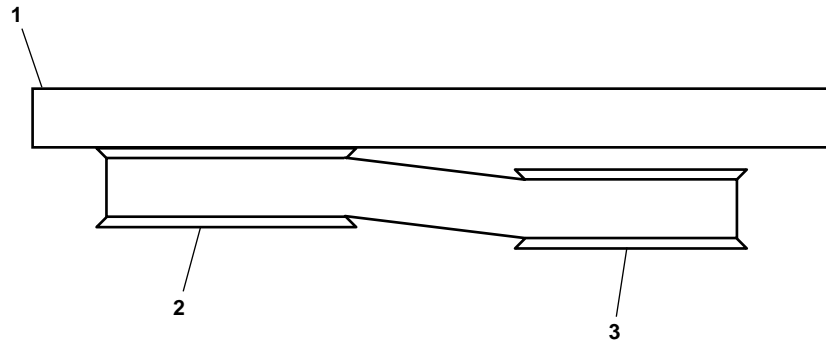
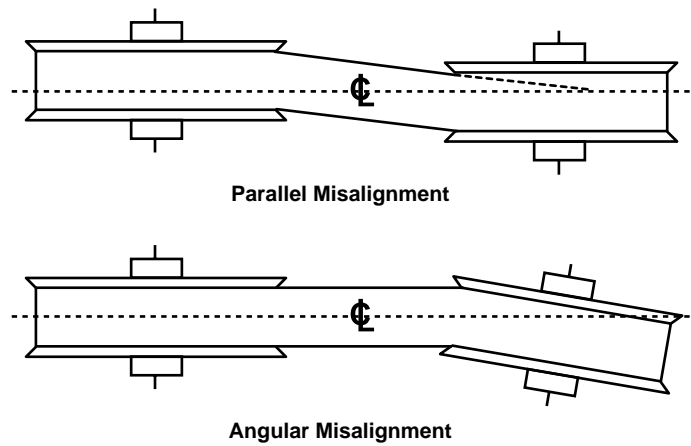

Figure 5. Checking Pulley/Sheave Alignment
Figure 6. Parallel and Angular Misalignment
1. Place a suitable straightedge (figure 5, item 1) across the compressor sheave (figure 5, item 2) and the motor pulley (figure 5, item 3). The suitable straightedge should rest firmly across both flanges of the outermost sheave or pulley.
2. With the suitable straightedge (figure 5, item 1) in place, check for both parallel and angular misalignment (figure 6). Maximum permissible parallel misalignment is 1/16 inch (1.6 mm). Maximum permissible angular misalignment is 1/2 degree.